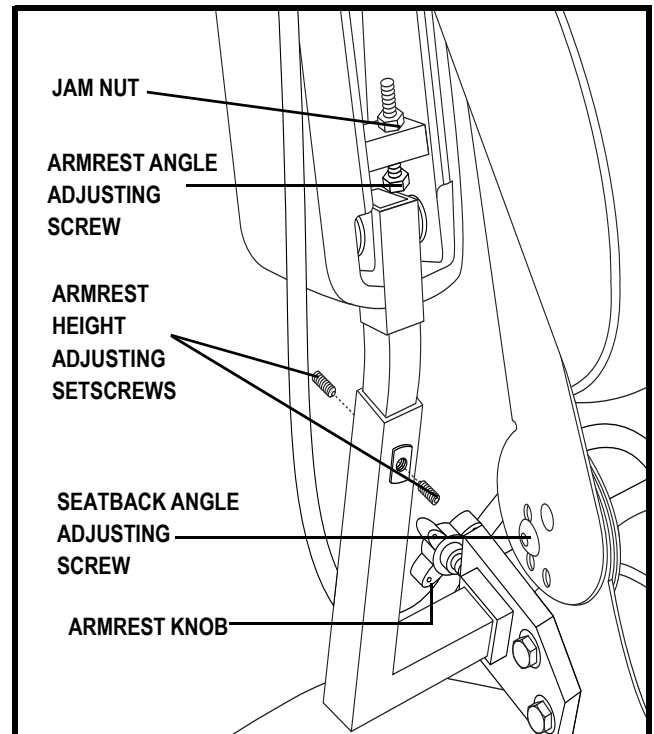

Figure 13. Seatback and Armrest Adjustments
1. Remove the adjusting screws from each seat hinge. See figure 13.
1. Locate the two armrest knobs on each side of the armrest receiver bracket. See figure 13.
1. Loosen the setscrews located on the armrest receiver. See figure 13.
1. Lift the armrest straight up so that it is perpendicular to the floor. See figure 13.